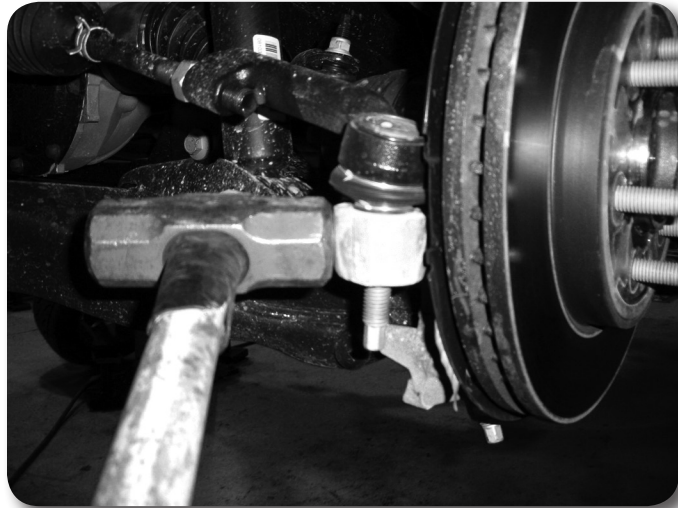

Figure 3
8. Disconnect the tie rod ends from the steering knuckles **Figure 3**. Remove and retain the mounting nuts. Strike the steering knuckle near the tie rod end to dislodge the end. Take care not to strike the tie rod end.